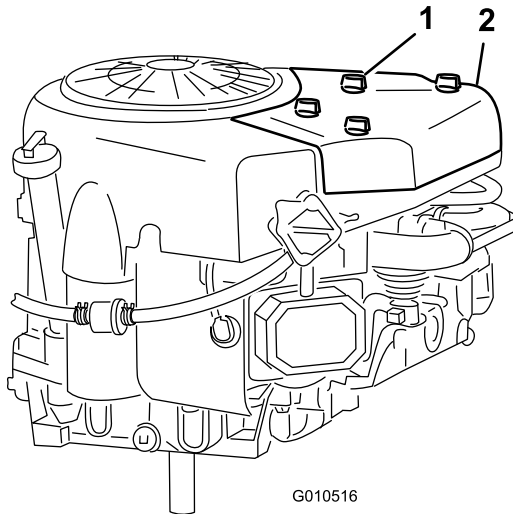

Figure 22
2. Unscrew the knobs and remove the air cleaner cover (Figure 22).
3. Install the air cleaner cover and knobs (Figure 22).